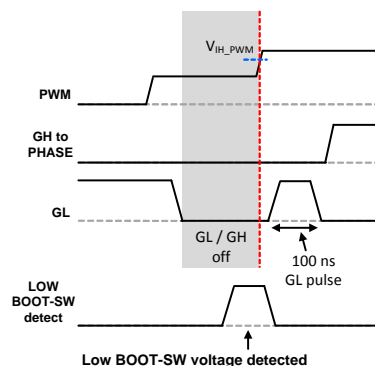

Figure 32. Low BOOT-SW Voltage Detected and PWM from 3-State to HIGH
- If the part exits 3-state with a low BOOT-SW voltage condition and the controller commands PWM=HIGH, the SPS outputs a 100 ns GL pulse and follows the PWM=HIGH command (see Figure 32).